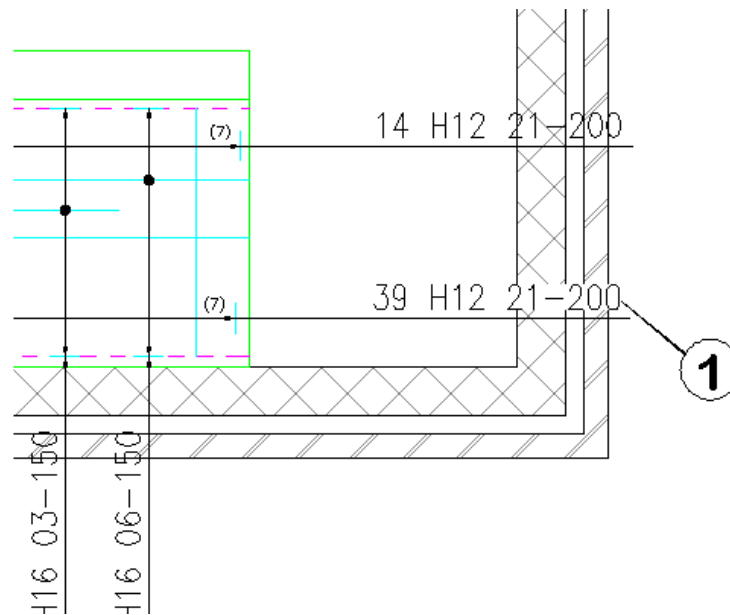

Figure 6.10.6:1 Masking of selected Bar Labels by using Mask Text
- ▶ The command adds a mask behind the Bar Label, as shown below in figure 6.10.6:1